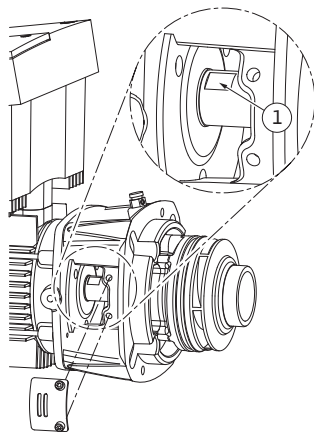

Fig. 52: Wrench flats on the shaft
15. Put an open-end wrench (22 mm is the best width across flats) into the lantern window and hold the shaft steady with the wrench surfaces (Fig. 52, Item 1). Unscrew the impeller nut (Fig. 7, Item 15). The impeller (Fig. 7, Item 16) is automatically pulled off the shaft.
24. During the assembly of the impeller, put an open-end wrench (22 mm is the best width across flats) into the lantern window and hold the shaft steady with the wrench surfaces (Fig. 52, Item 1).